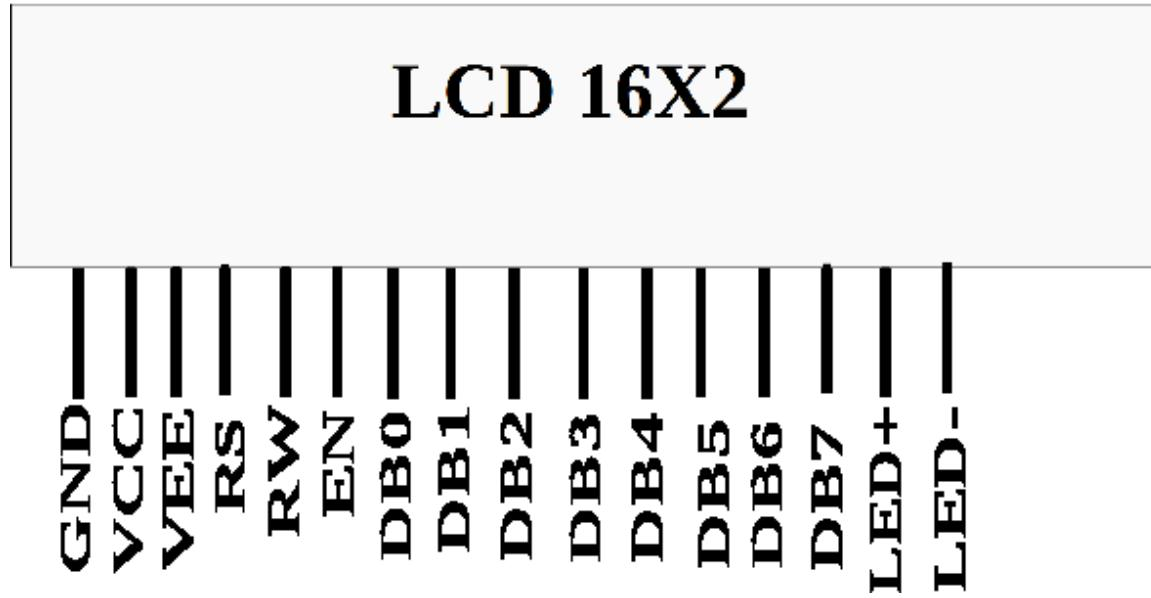

Figure 1.3: LCD pins
1.2.2.1. Plug the LCD in Figure 1.3 to the breadboard.